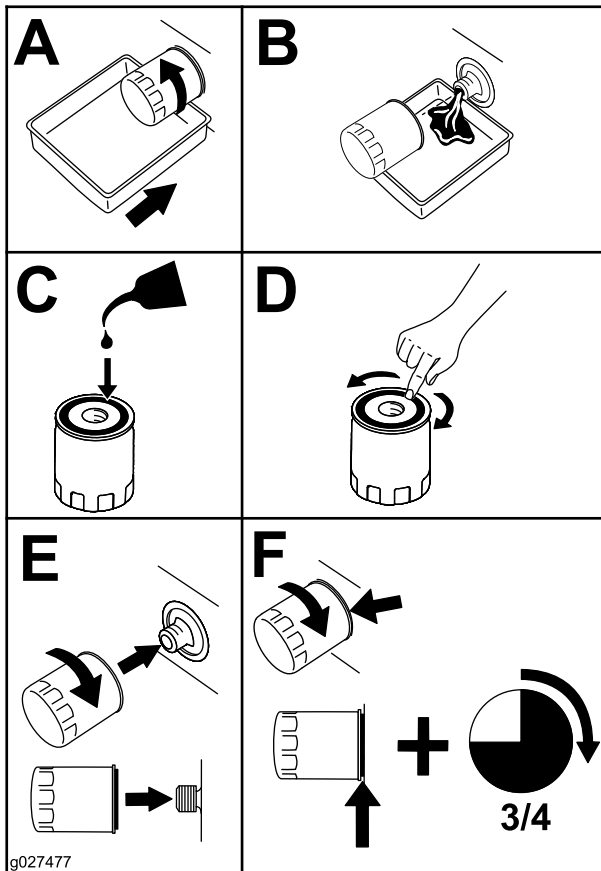

Figure 48
5. Change the engine-oil filter (Figure 48).